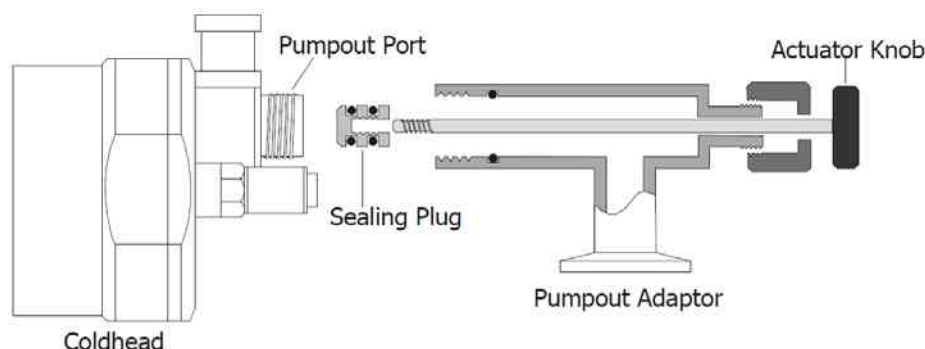

Figure 12 – Attaching the pumping adaptor
5. Connect a good rotary pump (preferably 2-stage) to the Cryostream Coldhead pump-out port using the pumping Adaptor supplied (see Figure 12). Screw the adaptor onto the pump-out port positioned at the top of the rigid leg of the transfer line. **Do not withdraw the sealing plug at this stage.**